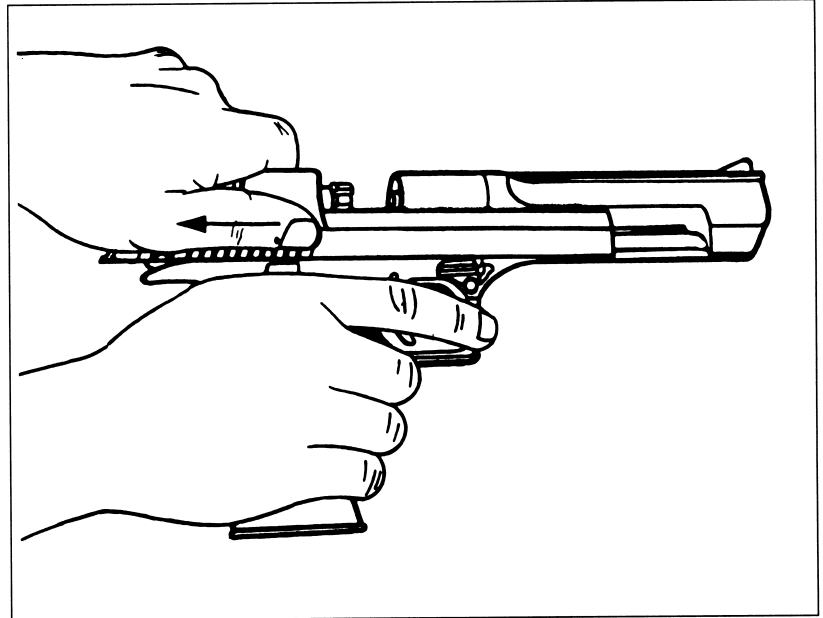

fig. 8
3. Grasp the slide, pull it all the way back and release it (fig. 8). This operation cocks the hammer and chambers a cartridge.